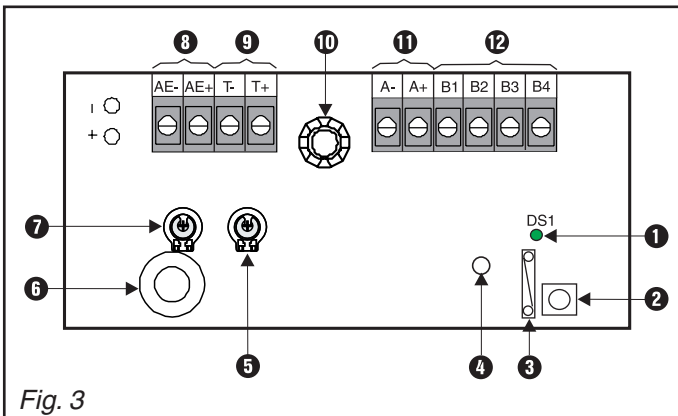

Fig. 3
#### 3.3 WMC 12 circuit board (Fig. 3)
The sensitivity of the microphone must be matched to the room and ambient noises (potentiometer 7, Fig. 3). Where sensitivity is reduced, the reception of quiet signals naturally reduces. The following ranges are normally obtained.
Set the required volume using potentiometer (6, Fig. 3).
- Switch (5, Fig. 3) open: LED active.
- Switch (5, Fig. 3) closed: LED inactive.